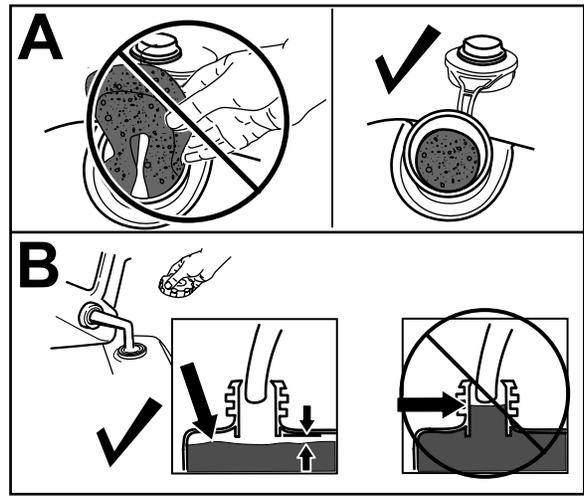

Figure 10
1. Clean around the fuel-tank cap and remove the cap from the tank (A of Figure 10).
Important: This machine is equipped with a premium fuel tank that uses a foam insert to prevent fuel agitation. Never remove the foam element, because it allows the engine to use all the fuel in the tank (B of Figure 10).